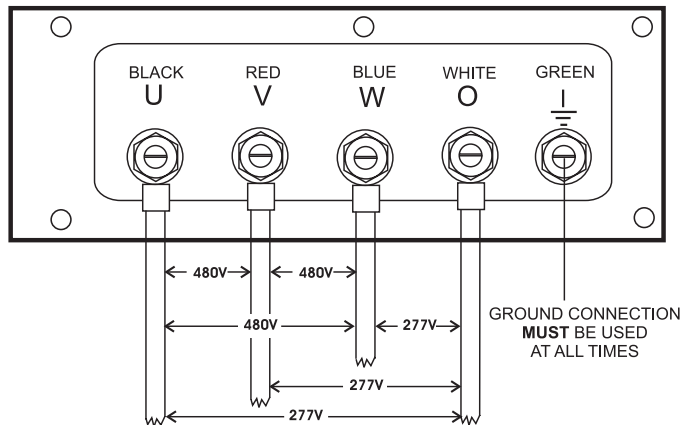

Figure 27. UVWO Terminal Lugs 480/277 Three Phase Connections
2. Connect the load wires to the UVWO terminals as shown in Figure 27.